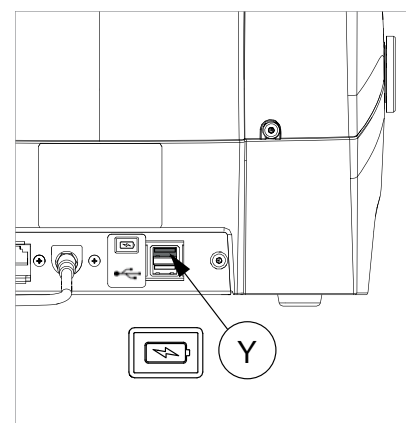

Fig. 16
- 1) Connect the tablet to a power source by means of its power pack in order to charge it (3 hours for the first charge). The tablet can also be charged connected to the specific USB port (Y) on the back of the machine (Fig. 16, page 12).